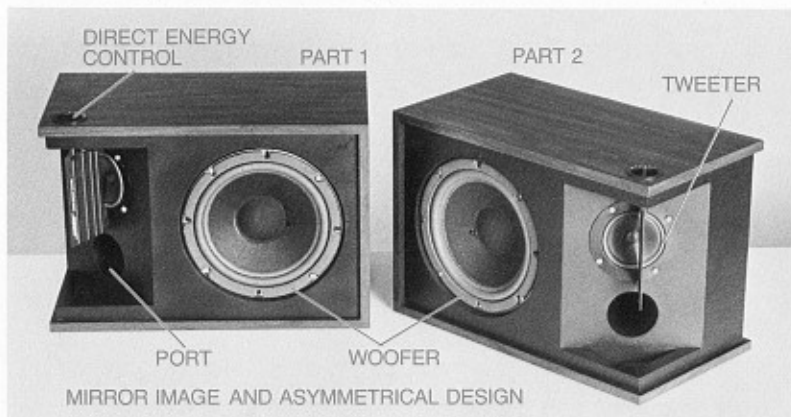

Figure 5
**ASYMMETRICAL DESIGN.** The Asymmetrical Design of Model 360 loudspeakers provides a high proportion of reflected sound at high frequencies and contributes to exceptionally spacious stereophonic reproduction. To provide balanced spatial properties in stereo reproduction, these speakers are designed so that the speaker used on the left side of the listening room (called Part 1) is a mirror image of the speaker on the right side (called Part 2). The Asymmetrical Design and the mirror-image construction of the speakers are shown in the photograph below, taken with the grillecloth removed from the speakers. The tweeters direct much of their energy toward the side walls of the listening room. The side walls reflect the high-frequency energy uniformly throughout the listening area, resulting in a spacious stereo image extending across the room from one wall to the other (See Figures 5 & 6).